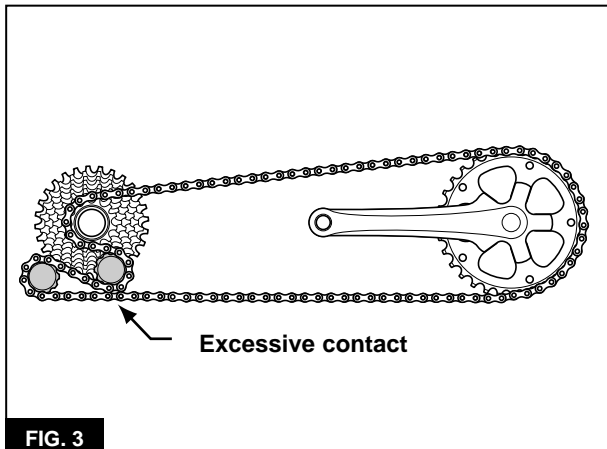

FIG. 3
- b. The chain is too long if the chain contacts itself or any part of the derailleur after the chain leaves the tensioner pulley (**Figure 3**).